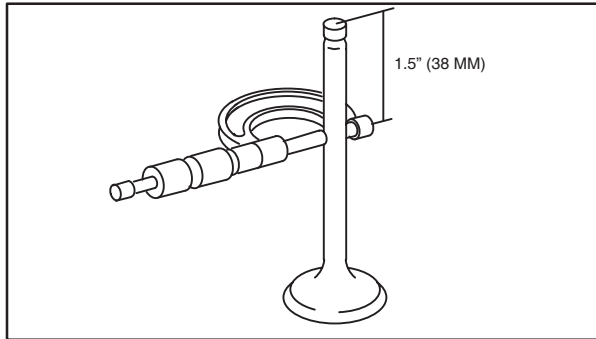

Fig. 15
1. Measure valve stem diameter approximately **1-1/2" (38 mm)** from end of valve, **Fig. 15**.